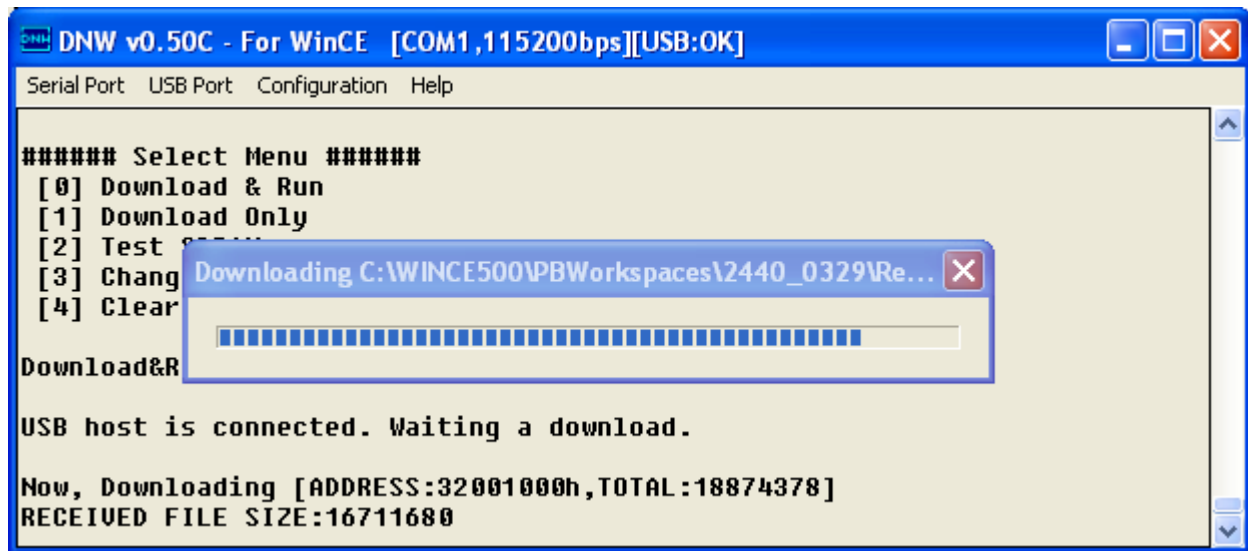

Figure 5-11 Downloading Status of NK.nb0
12. Once download begins, a download status bar appears on your screen as shown in figure 5-11.